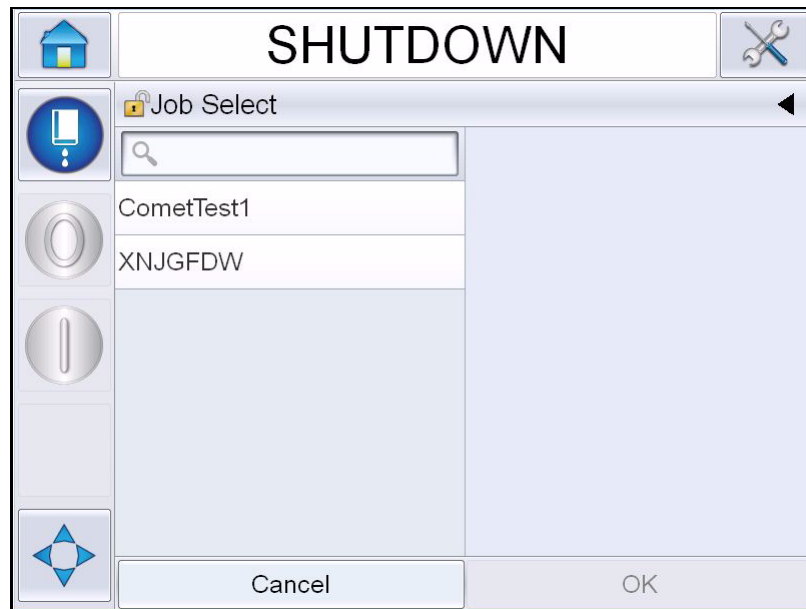

Figure 4-27: Job Select
- 2 A list of available messages appears (see Figure 4-27).